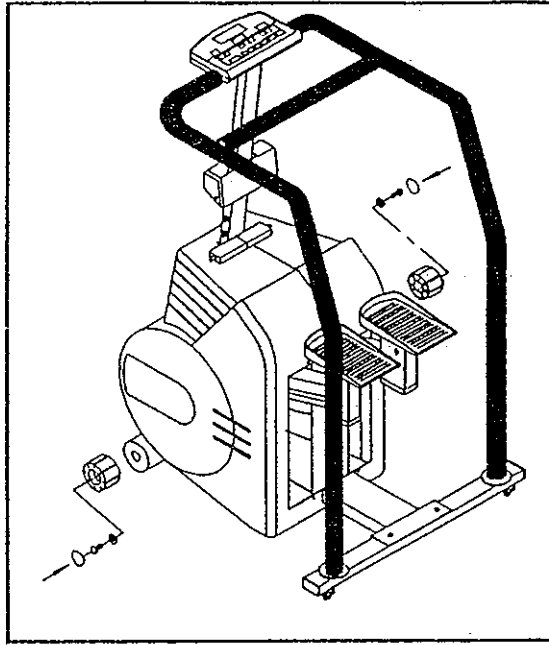

Fig.32
12. Replace the transport wheels, tighten with screws and washers, then cover with labels (see Fig. 32).